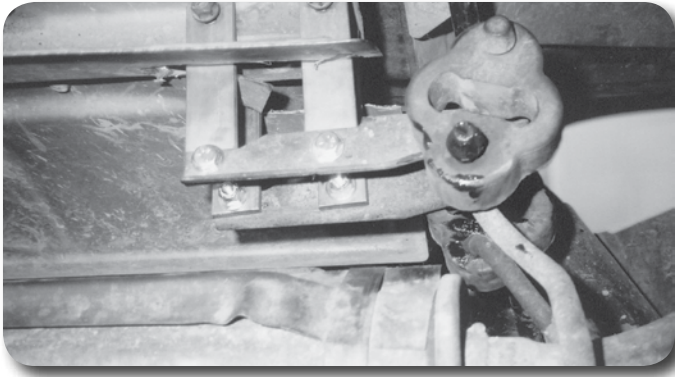

Figure 10
44. Install modified hanger on vehicle through access slot cut in heat shield. Using two 1/4"-20 x 2-3/4" bolts, two 1/4" lock nuts, and four 1/4" SAE washers, attach the exhaust hanger through the relocating bracket, through the original mounting hole, and through the opposite bracket **Figure 10**.